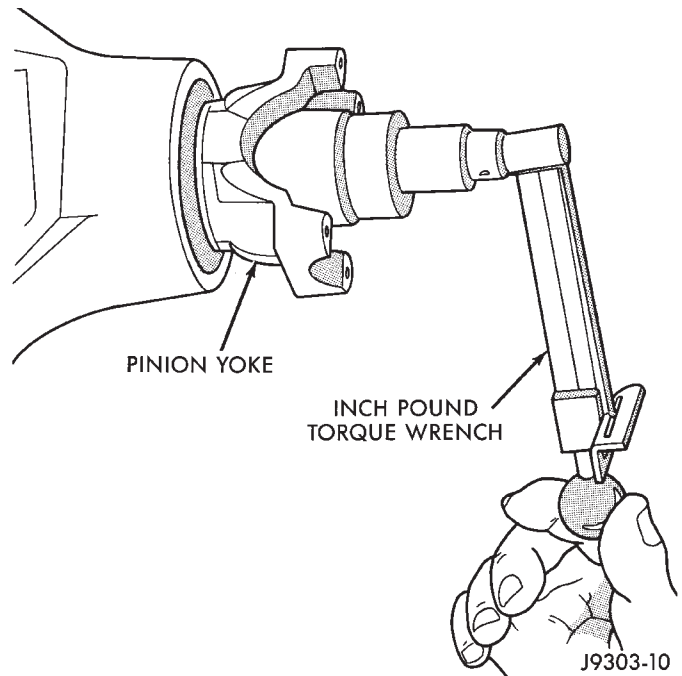

Fig. 24 Check Pinion Gear Rotation Torque
(10) Slowly tighten the nut in 6.8 N·m (5 ft. lbs.) increments until the required rotating torque is achieved. Measure the rotating torque frequently to avoid over crushing the collapsible spacer (Fig. 24).
(11) Rotate the pinion gear a minimum of ten times. Verify that the pinion rotates smoothly. Check rotating torque with an inch pound torque wrench (Fig. 24). The torque necessary to rotate the pinion gear should be:
(12) Install differential assembly and axle shafts, if necessary.
(13) Align marks made previously on yoke and propeller shaft and install propeller shaft.
(14) Install rear brake rotors and calipers. Refer to Group 5, Brakes, for proper procedures.
(15) Add gear lubricant, if necessary. Refer to Lubricant Specifications of this section for lubricant requirements.
(16) Install wheel and tire assemblies.
(17) Lower vehicle.